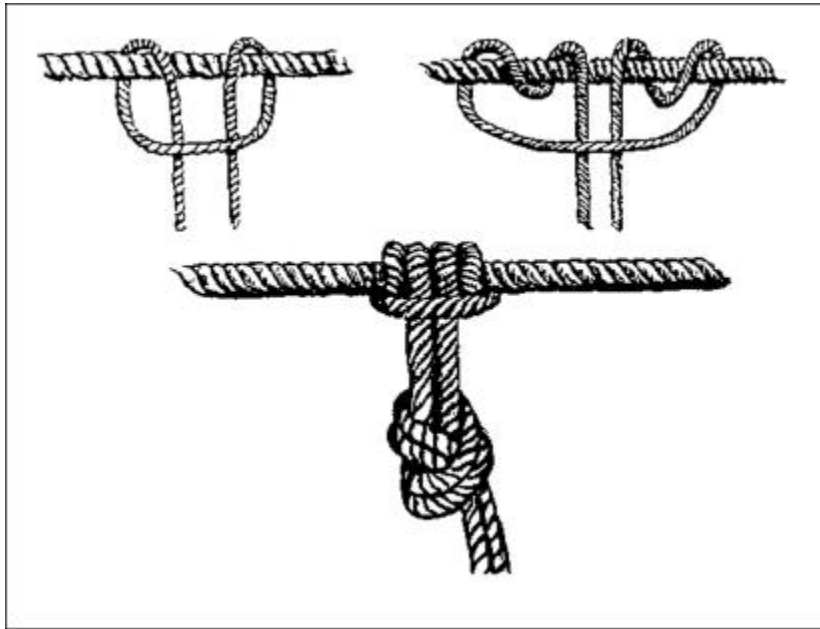

Figure 1-18. Middle-of-the-rope prusik knot.
(1) *First method.* The prusik knot is tied at the middle or end of a rope; there are many ways to do this (Figure 1-18). The middle-of-the-rope prusik knot can be tied with a short rope to a long rope as follows: